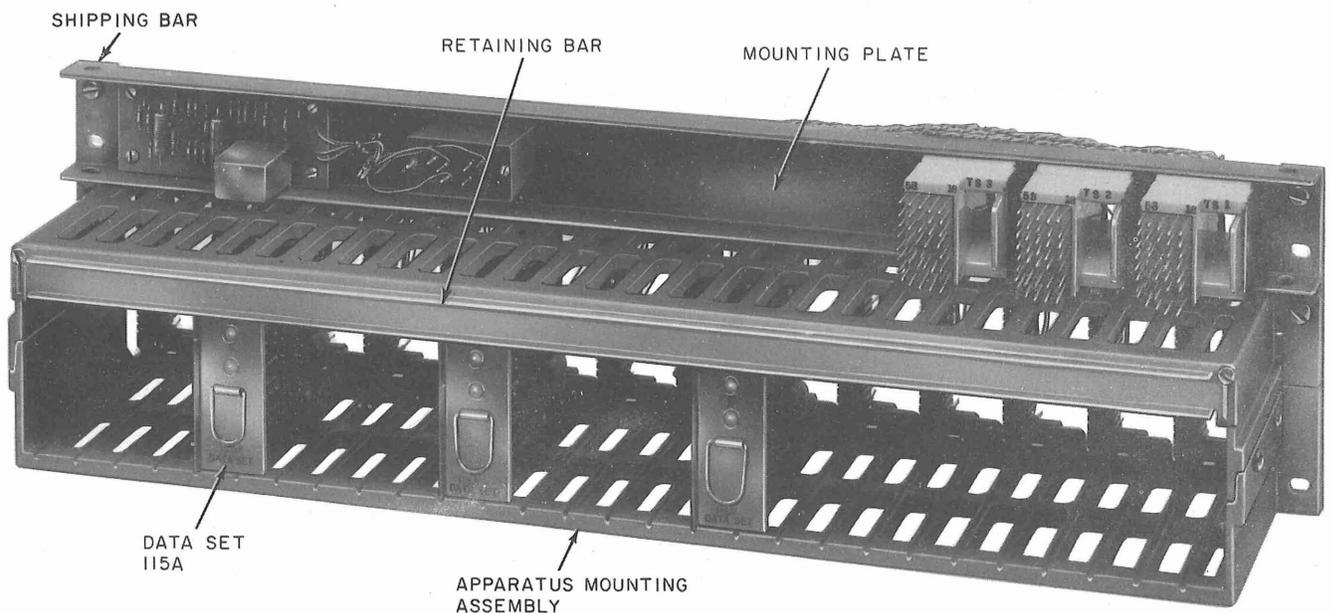

Fig. 7—43A1 Data Mounting (Partially Equipped)
**2.05** To install the 43A1 data mounting, first remove the two nuts (Fig. 7) which secure the mounting plate to the shipping bars and the apparatus mounting assembly. Insert the 43A1 data mounting into the frame at a slight angle, rotate into place, and secure to frame.